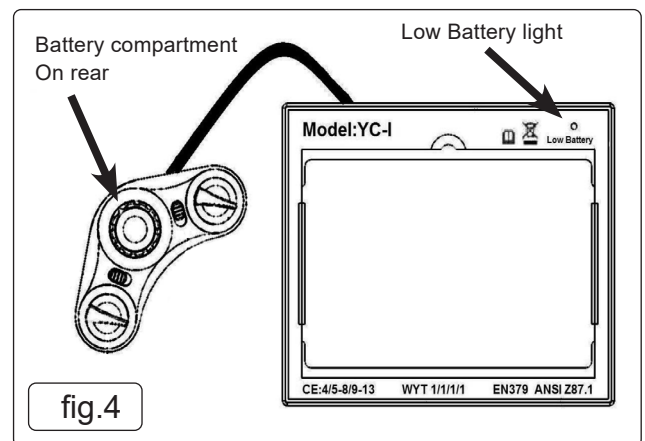

fig.4
7.2. HELMET AUTO-DARKENING FILTER CARTRIDGE (FIG.4)
7.2.2. When the Low Battery light (fig.4) is lit you will need to replace the cartridges' batteries. The batteries are housed in a covered compartment on the inside face of the control panel accessed from the inside of the helmet. Slide the battery compartment cover off and replace the batteries.